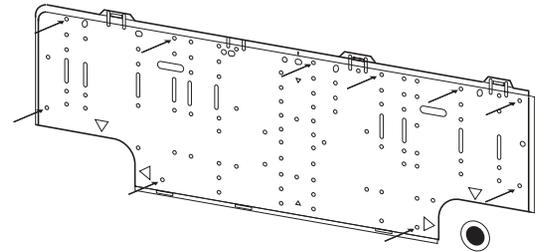

Fig. 3-34
- (1) Attach the rear panel to the wall with the 10 screws provided. (Fig. 3-34)